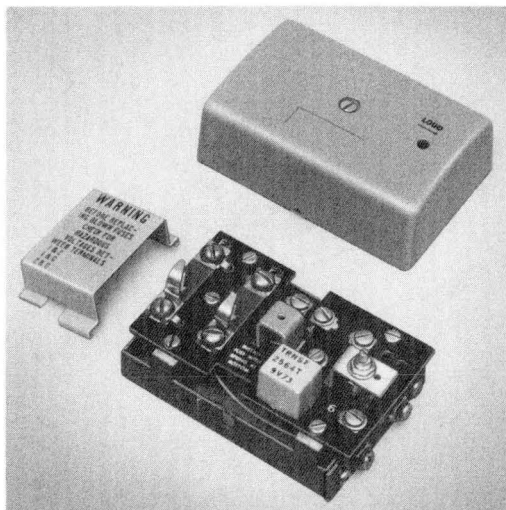

Fig. 12—33A Voice Coupler
- (1) Remove cover from coupler.
- (2) Mount coupler at location which permits customer to make connections and also allows connection to system.
**Caution:** Ensure that 35P fuses are installed with the spring at the bottom (Fig. 12) and set the volume control at approximately mid-range.
- (3) Connect primary station(s) to the voice coupler per Table C.